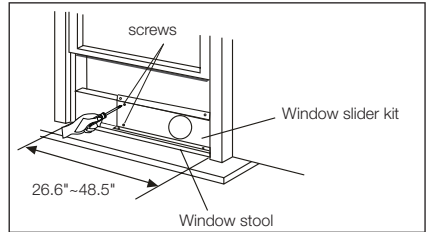
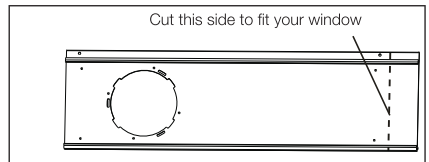
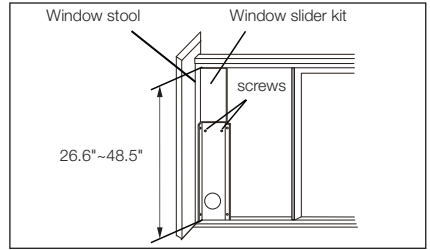

Fig. 13
Fig. 14
Fig. 19
2. Open the window sash and place the window slider kit on the window stool (Fig. 13). Attach the window slider kit to the window stool. Adjust the length of the window slider kit according to the width of window. Screw down the
two screws on the window slider kit. See Fig.13. Cut the adjustable window slider kit if the width of window is less than 26.6 inches (Fig. 14).
2. Open the window sash and place the window slider kit on the window stool. See Fig.19. Attach the window slider kit to the window stool. Adjust the length of the window slider kit according to the height of window. Screw down the two screws on the window slider kit. See Fig.19. Cut the adjustable window slider kit if the height of window is less than 26.6 inches (Fig. 14).